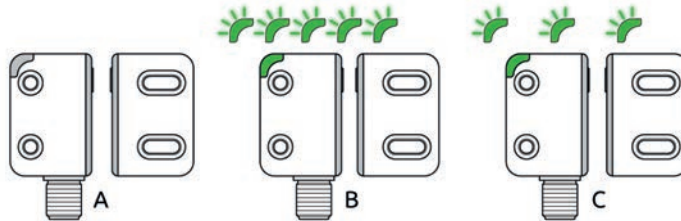

Figure 30 - Automatic teach-in signals
- Place the actuator in front of the sensor (at a distance < 2mm) (Figure 30, condition A).
- The sensor reads the actuator code and starts the pairing process (Figure 30, condition B).
- The procedure will be completed after 5 seconds (Figure 30, condition C).